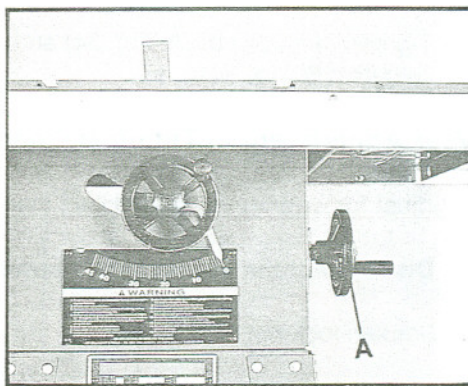

Fig. 30
2. To tilt the saw blade, loosen lock knob, turn handwheel (A, Fig. 30) until desired angle is obtained, then tighten lock knob.